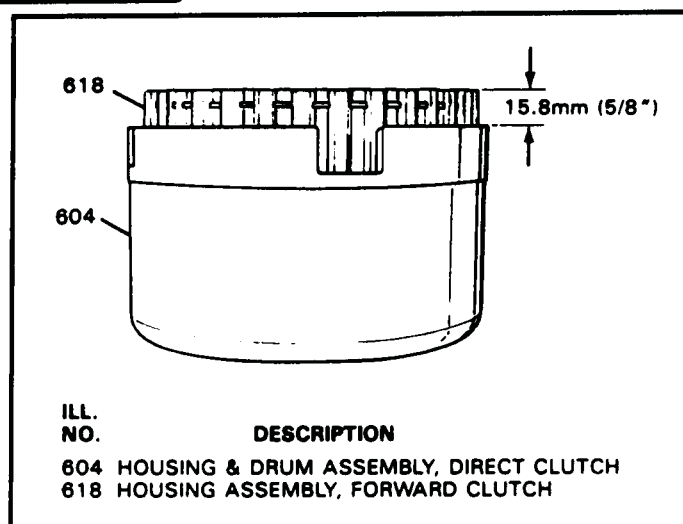

Figure 96
37. Set the direct clutch housing on work surface with clutch plates facing up (See Figure 96).
39. When forward clutch housing is fully seated, it will protrude approximately 5/8" from direct clutch housing, as shown in Figure 96.